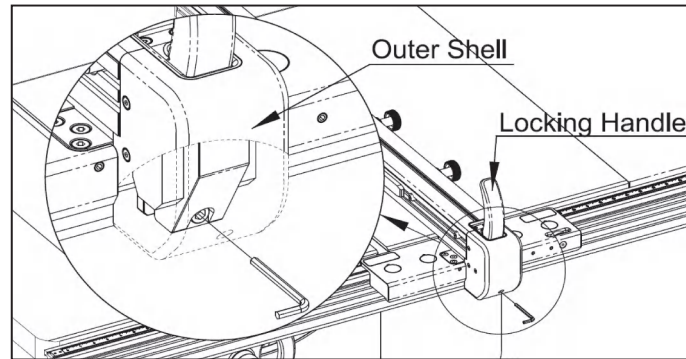

Fig. 6-23
5. Fine-tuning the Front Locking Force: As shown in Fig. 6-23, raise the Locking Handle and use a 6mm hex wrench to adjust the screw located within the outer shell. Begin by loosening the screw fully in a counterclockwise direction, then turn it clockwise until you feel noticeable resistance. To complete the adjustment, rotate the wrench approximately 60 degrees ($1/6^{\text{th}}$ of a rotation) counterclockwise.